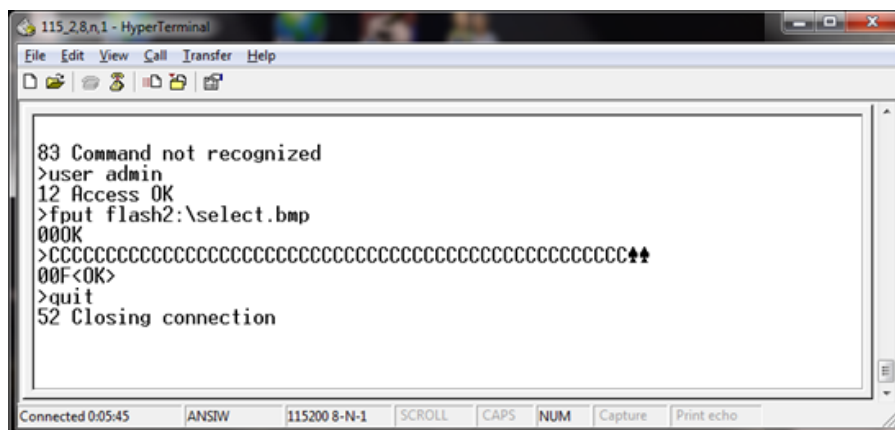

Figure C-9: HyperTerminal Final Display
12. When the file transfer is complete, the transfer window will close and HyperTerminal will show <OK> on the display (Figure C-9).